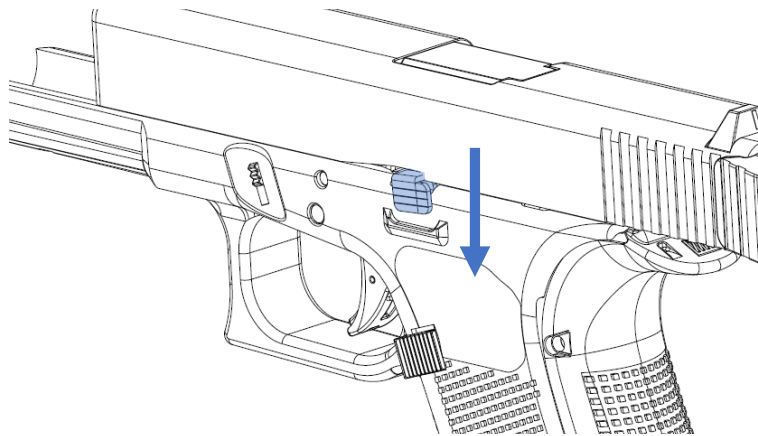

Figure 77: Push the slide stop lever down to release the slide.
4. Close the slide either by lowering the slide stop lever or by pulling the slide back and releasing it (Figure 77).